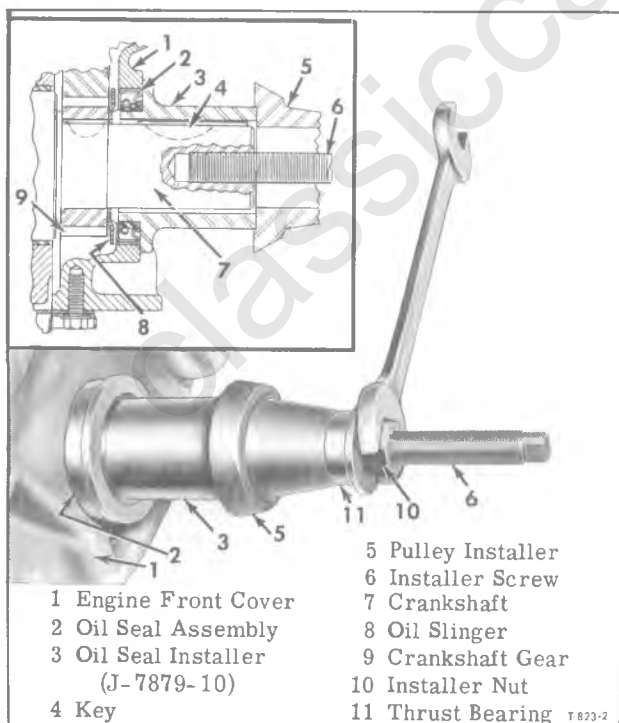

Figure 14—Front Cover Oil Seal Installation
3. Use special installer (J-7879-10) in manner shown in figure 14, and press new oil seal into bore in cover. Seal lip must point inward toward crankshaft oil slinger (8, fig. 14). When using installer, turn crankshaft so key is on top. This centers the tool properly so pressure is applied uniformly over outer diameter of seal.